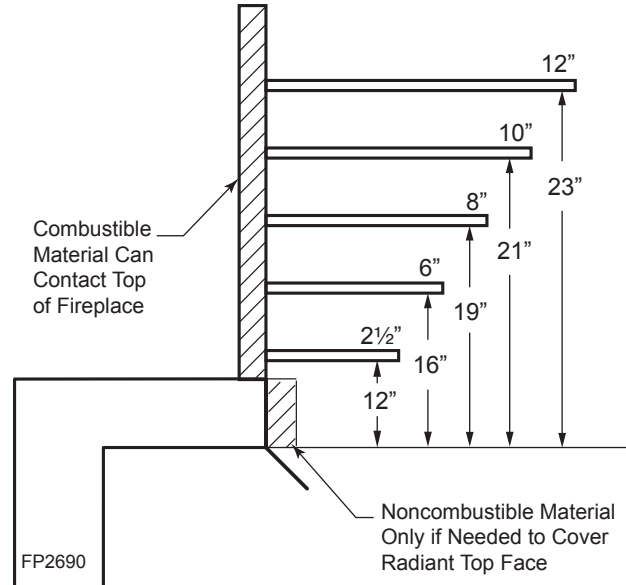

Figure 5 -
- Mantel clearances:** The canopy supplied with the unit must be installed. If a combustible mantel is installed, it must meet the clearance requirements as shown in *Figure 5*. However, if lower mantel height is desired, refer to Page 14, *Figure 6*.